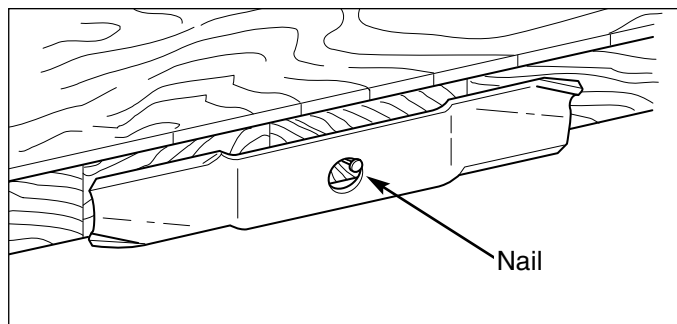

Figure 10. Balancing The Blade
- Balance the blade as shown in Figure 10. Center the blade's hole on a nail lubricated with a drop of oil. A balanced blade will remain level.